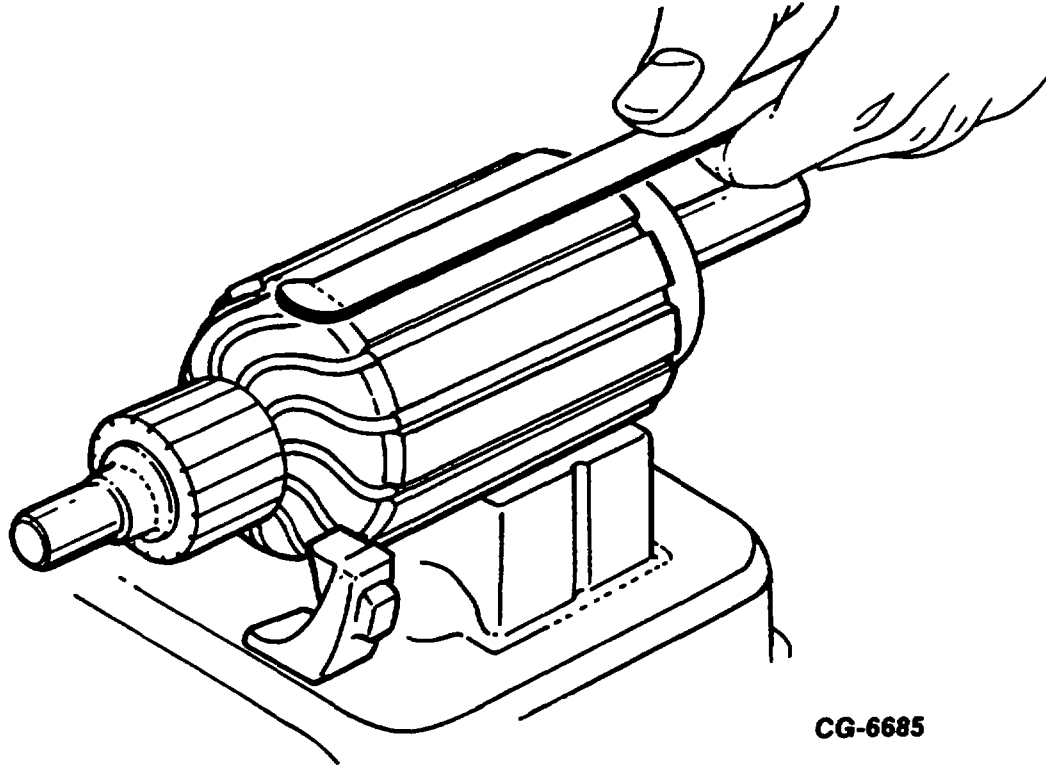

Fig. 11 Testing Armature for CG-6685 Short Circuits
- a. Short circuits are located by turning the armature in a growler while holding a steel strip on the armature. The steel strip will vibrate on the area of the short circuit, see Fig. 11.